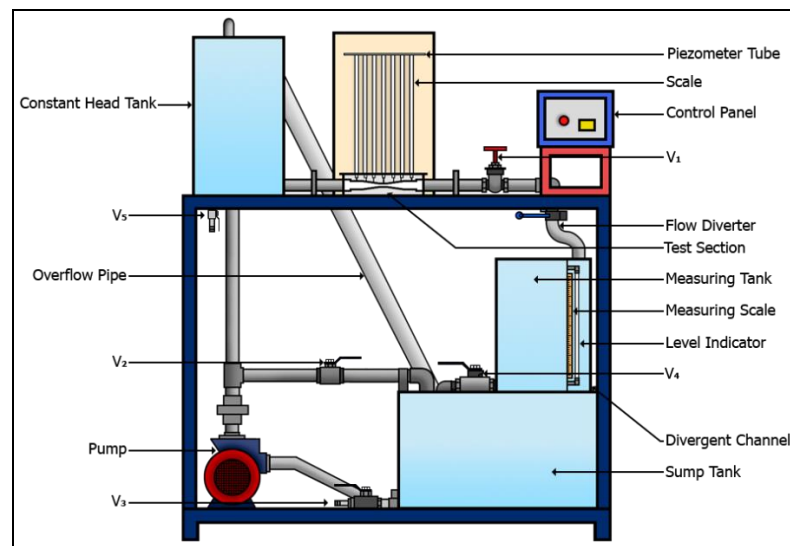

Fig. 3 Bernoulli's equation
3.1 Determine the total head which relating to the fluid pressure, velocity, and potential energy for analyzing the fluid flow behaviors in engineering applications. The testing apparatus is illustrated in Fig.3.